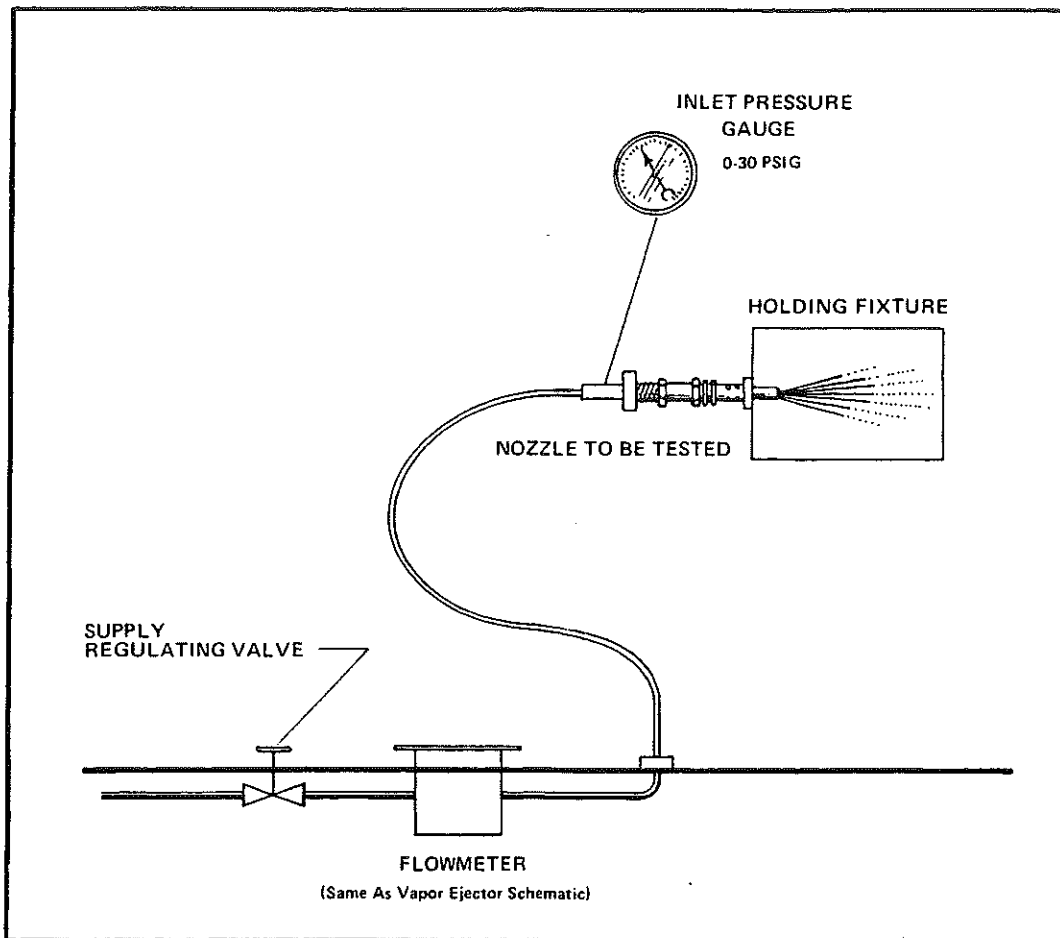

FIGURE 70-06. FLOW STAND SCHEMATIC (Nozzle Calibration)
- B. Install master nozzle in fitting in accordance with schematic shown in Figure 70-06.